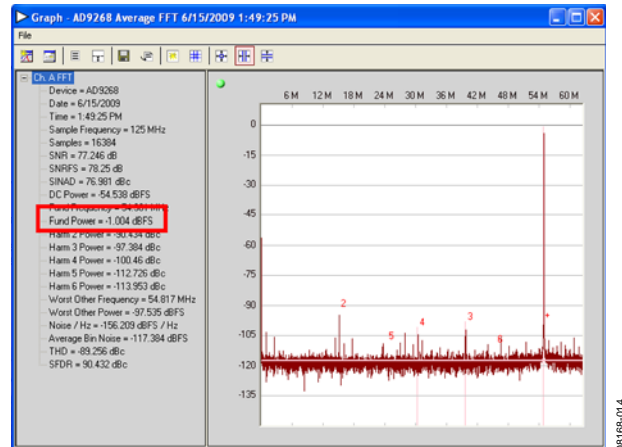

Figure 15. Graph Window of VisualAnalog
1. Adjust the amplitude of the input signal so that the fundamental is at the desired level. Examine the **Fund Power** reading in the left panel of the **VisualAnalog Graph - AD9268 Average FFT** window (see Figure 15).